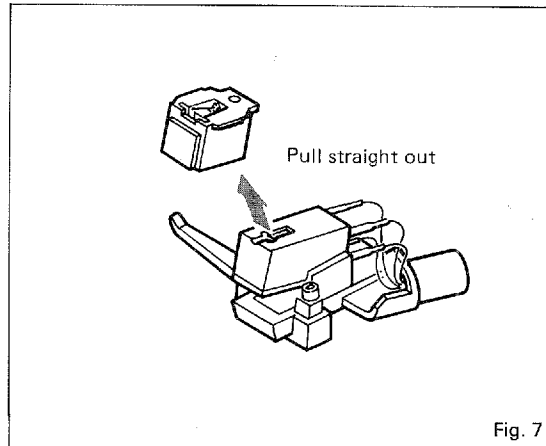

Fig. 7
- When replacing the stylus, use N-7700. To remove the stylus, pull it out in the direction shown in Figure 7. To install a replacement stylus, do just the reverse.